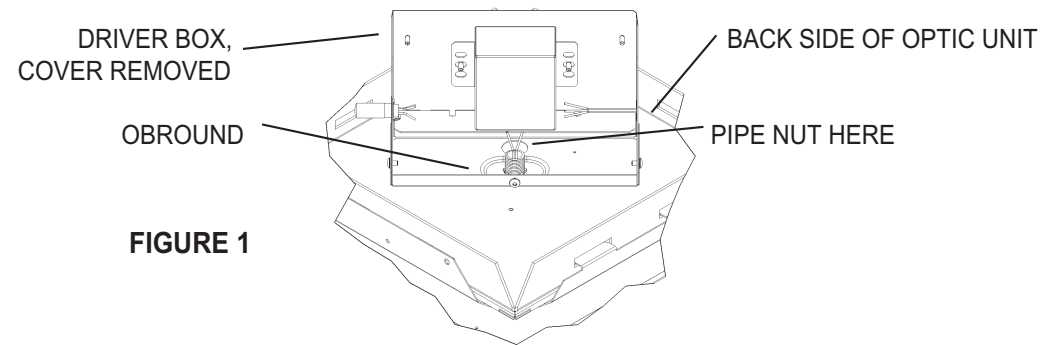

FIGURE 1
5. Remove pipe nut from optic unit and insert driver box on to pipe stem in optic unit. Aim driver box opening toward corner of optic unit and re-install nut. See Figure 1.